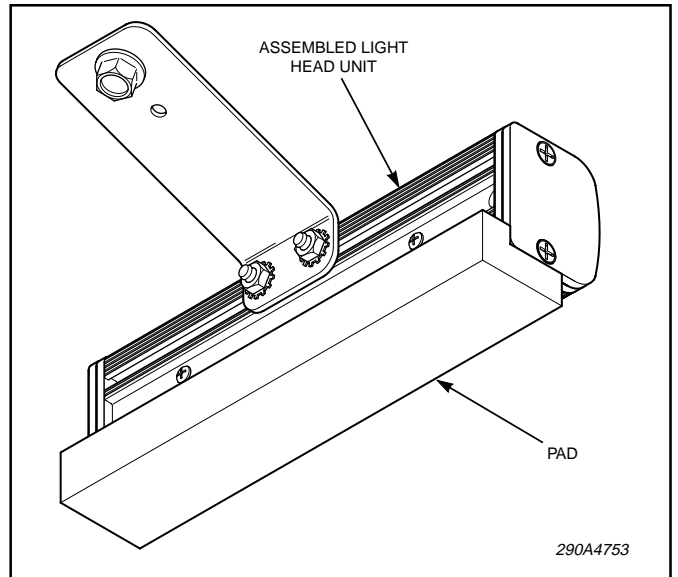

Figure 2.
4. See figure 2. Once the unit is installed, remove the backing paper from the foam pad included with the kit and install as shown. The pad can be trimmed to fit the light head being installed.